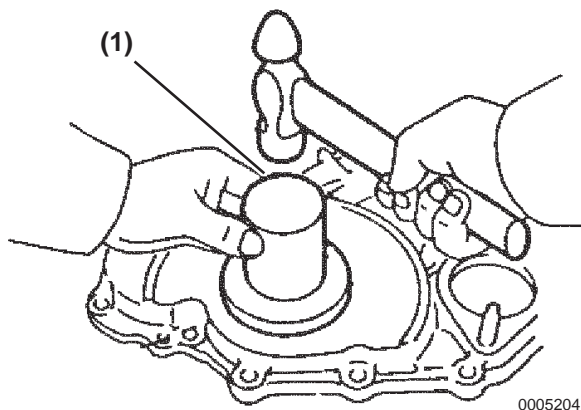

Figure 5-204
2. Tap in a new oil seal to install using special tool P/N 119770-01100 (**Figure 5-204, (1)**), until the surface is level with that of the timing gear cover.